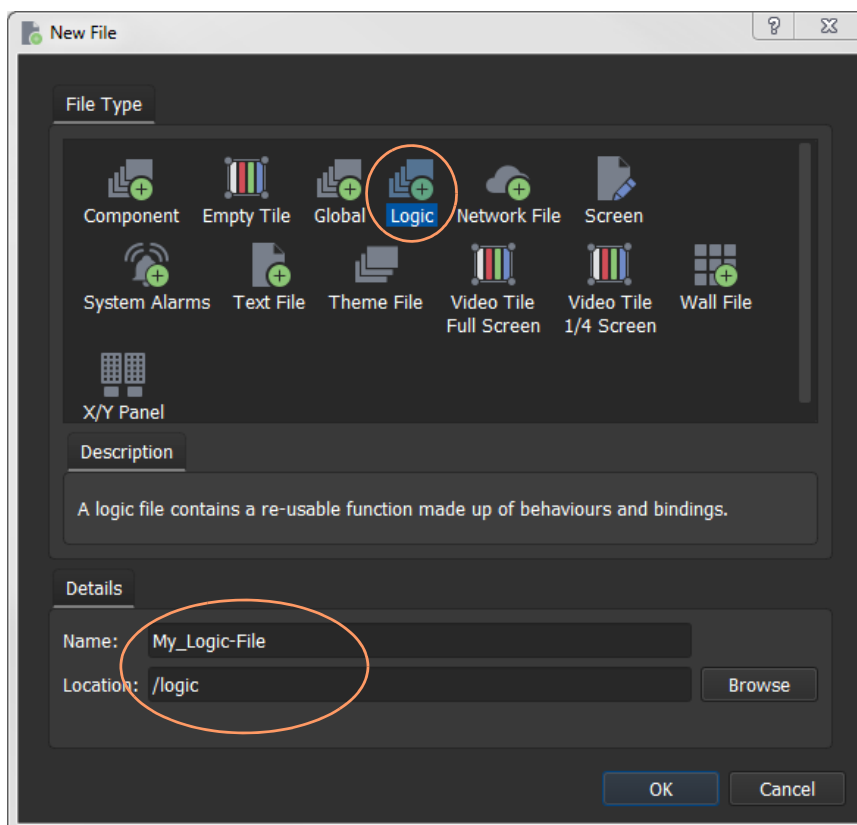

Fig. 10-3: Creating a New Custom Logic File
- 3 Browse to the new 'logic' folder and enter a name for the new logic file ('My_Logic-File' in this example). See Figure 10-3.